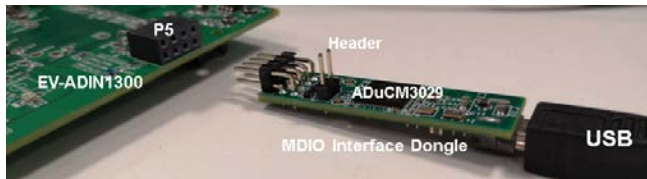

Figure 5. Connection of MDIO Interface Dongle to ADIN1200 hardware
3. Connect the MDIO interface dongle to the ADIN1200 board, ensuring the ADuCM3029 Microcontroller faces up, see Figure 5. The MDIO interface dongle is keyed and can only be connected one way.
3. Connect the MDIO interface dongle to the ADIN1200 board, ensuring the ADuCM3029 Microcontroller faces up, see Figure 5.